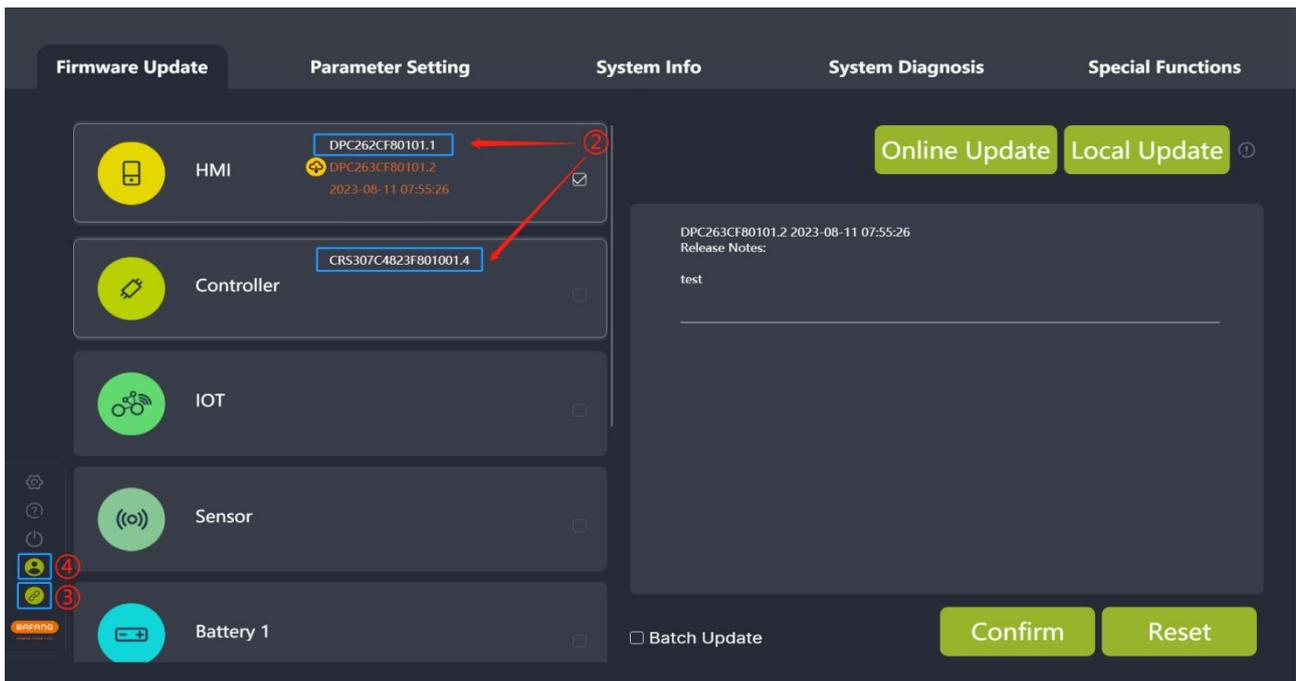

Fig. 3-2 Component inspection
- (2) Read the connected components' information at the same time, and the information will appear (Fig.3-2).